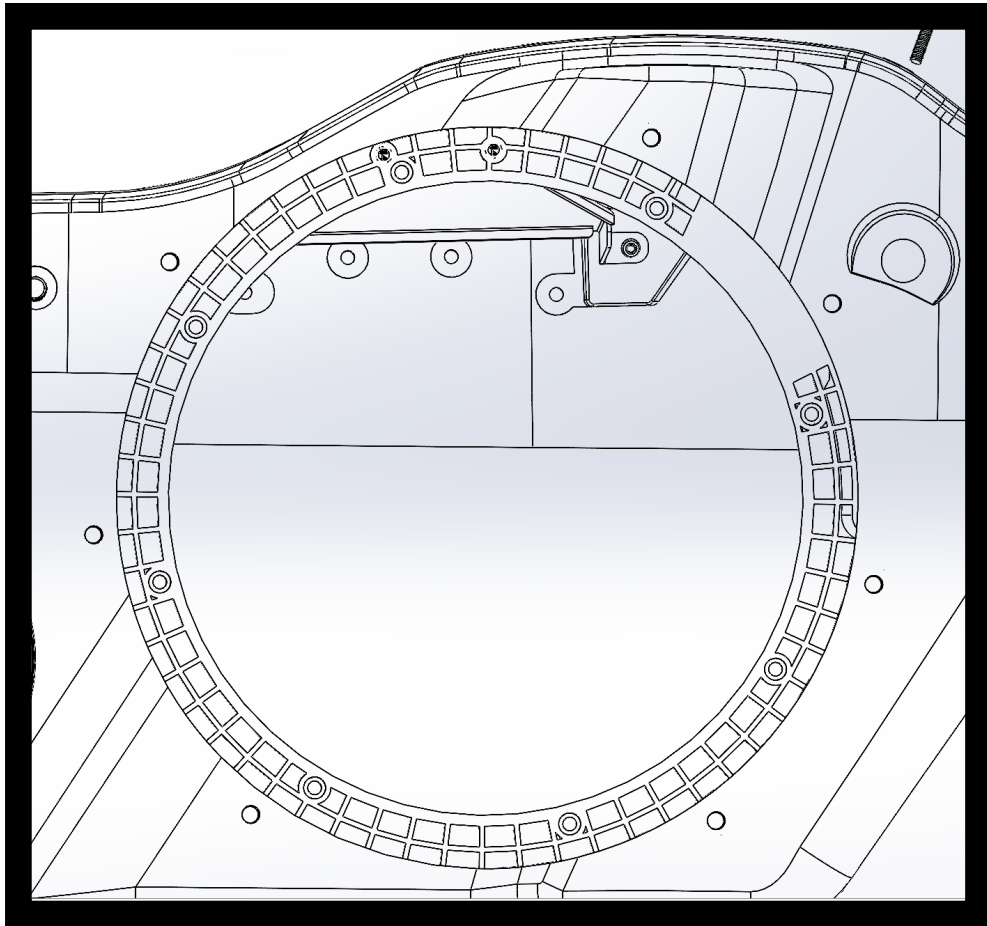

Figure 11 – Mounting Points
- Install speaker using (4) M5 x 20mm screws into locations, shown in [RED], see Figure 11.
- Install metal grill mesh and plastic grille trim ring using remaining (4) M5 x 45 mm screws, shown in [BLUE], see Figure 11.